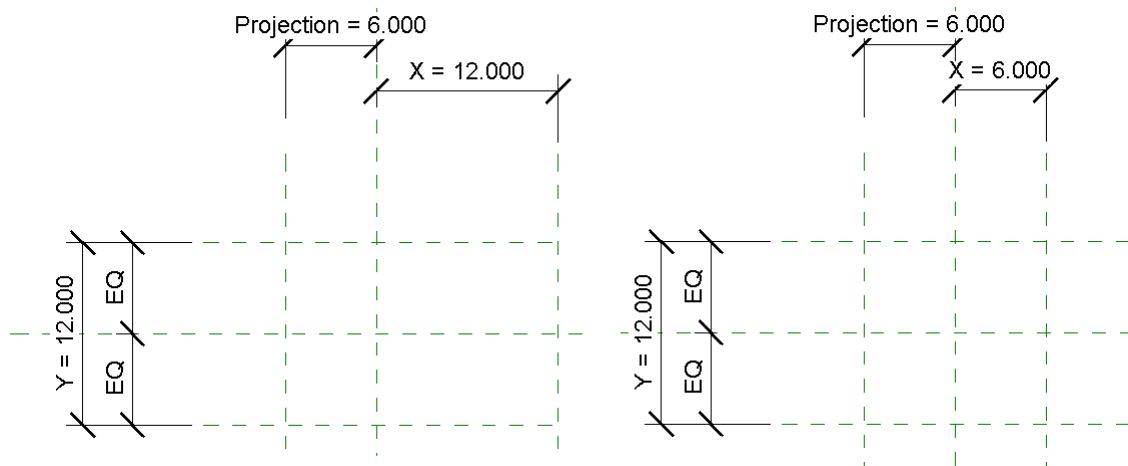

Figure 40—Reconfigure the horizontal dimensions and labels
- ⇒ Label the one on the right with the existing **x** parameter (it will flex) (see the left side of Figure 40).
5. Flex parameter **x** to a value of: **6** (see the right side of Figure 40).